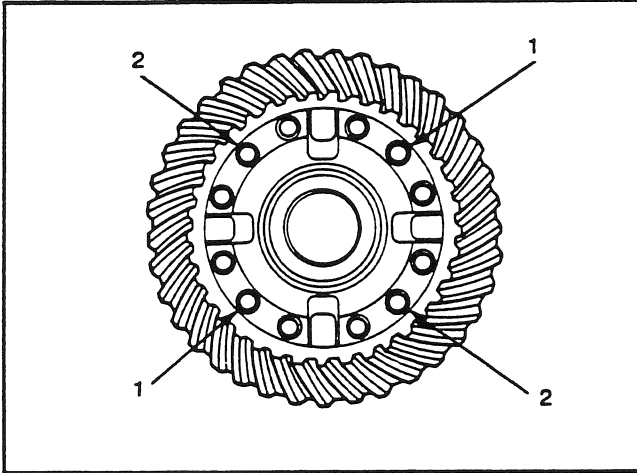

Fig. 58
9. Install four bolts into the case halves. The distance between the bolts must be equal. Tighten the bolts to the specified torque in a diagonal pattern (see Fig. 58). Install the remaining bolts. Tighten the bolts to the specified torque.